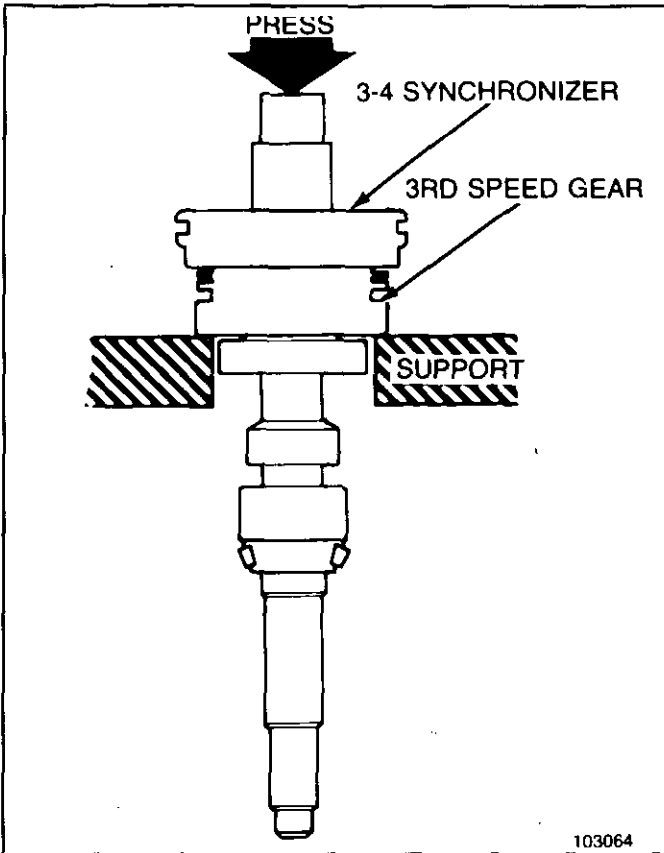

Figure 16 Removing 3-4 Synch. and 3rd Gear(Input)
3. Using support plates behind 3rd gear, press 3rd gear and 3-4 synchronizer from input shaft (Figure 16).